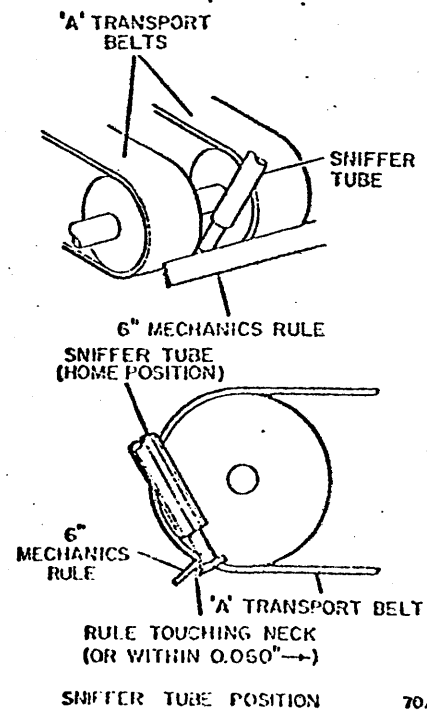

Fig. 3-61. Sniffer Tube Position
2. Refer to Fig. 3-61. Hold the six-inch rule against the A-transport belts and check for a dimension of 0.000 to 0.060 inches between the edge of the rule and the small part of the sniffer tube.